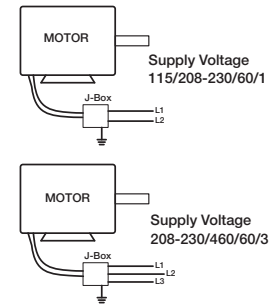

Figure 8 — Typical Wiring Diagram
- Mount and wire safety disconnect switch under ventilator cover and wire motor per connection wiring diagram. See Electrical Connection, Figure 8. Wire control switches at ground level.
NOTE: Refer to Figure 8 for connection wiring diagram.